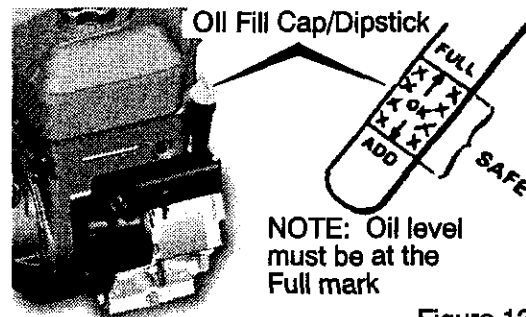

Figure 13
5. If necessary, add oil until the oil reaches the FULL mark on the oil fill cap/dipstick (see Figure 13). Do not add too much oil.